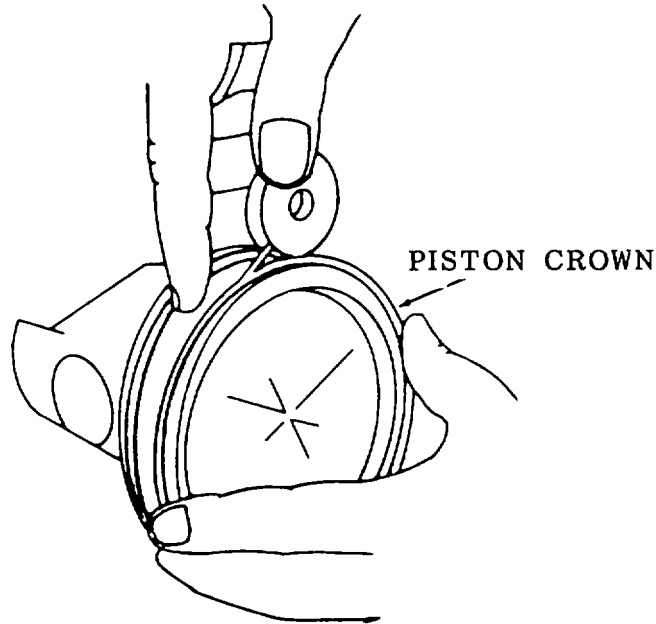

Figure 4-24 . Checking Fire Ring Groove in Piston Crown Using Tool J24599 .
- (1) Check tapered fire ring groove width in the current piston crown with tool J24599 as shown in figure 4-24. Slide the "NO-GO" wire (.106 inch diameter) of the tool completely around fire ring groove. Should the wire be below flush at any one area, the piston crown must be replaced. The "GO" wire (.100 inch diameter) should be flush or protrude slightly from fire ring groove.
- (2) Check cylinder liner and block bore for excessive out-of-round, taper or high spots which could cause failure of piston (refer to paragraph 4-12 for specifications).